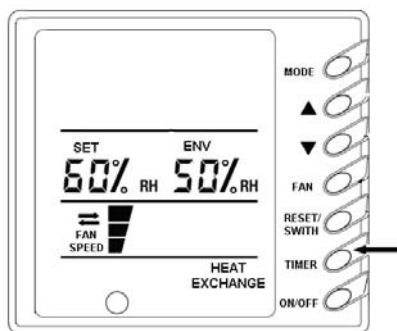

Fig.9
3.1.6 Timer Setting(Fig.9)
(1) In off status of the unit, timer on can be set and in on status, timer off, energy-saving on and energy –saving off and air clear can be set.
(2) Press Timer button into timer setting status. TIMER,Hr and letters corresponding setting will blink.
(3) (E.g. during timer off setting, Timer,Hr and OFFwill flash).In this case, the user can press ▲ or ▼to increase or decrease setting time. Repress Timer button to make the timer valid and the timing will be Fig.9 calculated after that. When the unit is under timer state, press theTimer button to cancel it. The time interval is 0.5 hr. The setting range of Timer on/off is 0.5-24hr.
(4) The setting range of Energy Saving On is 2-5hr and the default is 2hr.
(5) The setting range of Energy Saving Off is 1-4hr and the default is 1hr. (Note: press FAN and ▼ at the same time for 5s only after energy saving timer setting, the energy saving function can operate.
(6) The setting range of Timer Clear is 1250hr, 2500hr and 00000.The default is 1250hr.